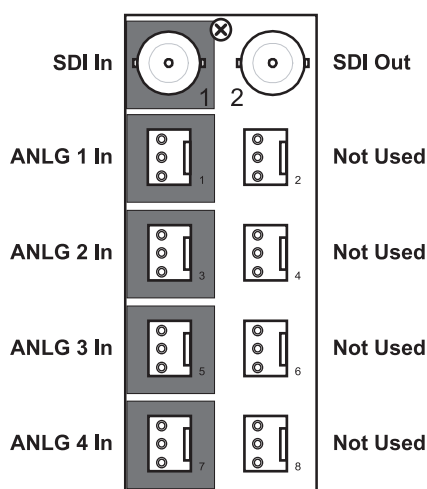

Figure 2.4 Cable Connections for the MUX-8258-4C
- **8310AR-034** Rear Module — Each rear module occupies one slot and accommodates one card. This rear module provides one SDI input, one SDI output and four analog inputs. (**Figure 2.4**)
- **8320AR-034** Rear Module — Each rear module occupies two slots and accommodates one card. This rear module provides one SDI input, one SDI output, and four analog inputs. (**Figure 2.4**)